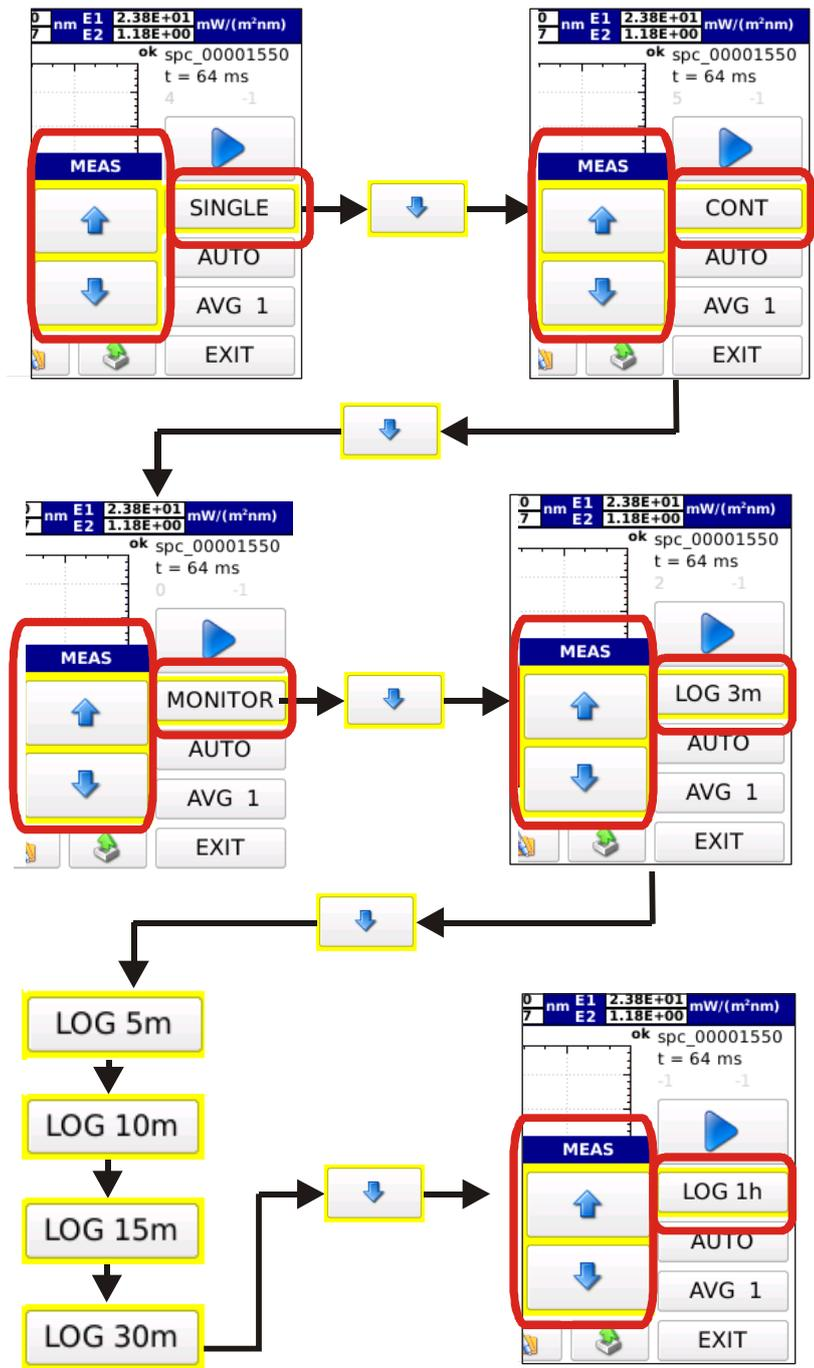

Figure 3.11: Select the operating mode using the arrow keys.
3.2.1 Select the operating mode of the instrument among the four available modes (SINGLE, CONTINUE, MONITOR, LOGGING). By pressing **SINGLE** the two scroll arrow cursors are displayed, pressing **↓** makes the operating mode change as shown on figure 3.11.